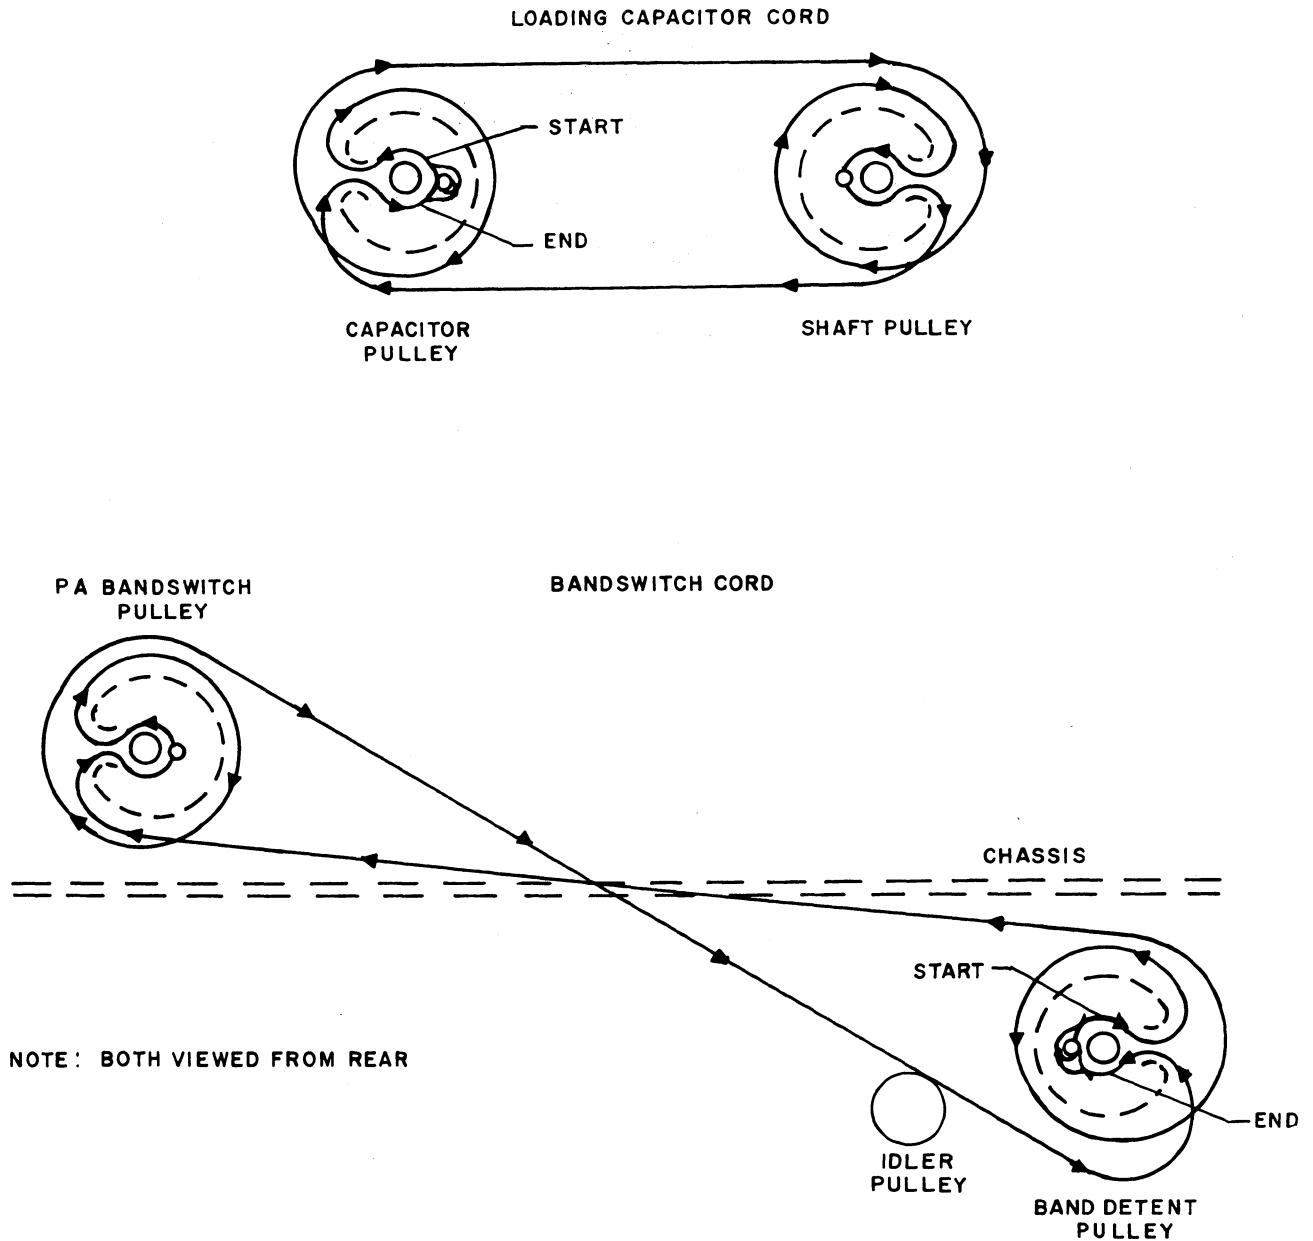

Figure 4-3. Dial Cord Stringing Diagram
4.5 DIAL CORD REPLACEMENT. (Refer to figure 4-3.)
d. String the cord according to the appropriate part of figure 4-3. **Make sure the cord turns do not overlap on the pulleys.** Pull the cord tight and tie to the tab. Make sure a short piece of spaghetti is slipped over the plastic covered cord so that it acts as extra insulation under the tab. This prevents r-f currents from melting the plastic and shorting the wire core to ground. Mash the tab down to clamp the cord securely. Tighten the idler to bring the cord to tension.
d. String the cord according to the appropriate part of figure 4-3. **Make sure the cord turns do not overlap on the pulleys.** Pull the cord tight and tie to the tab. Make sure a short piece of spaghetti is slipped over the plastic covered cord so that it acts as extra insulation under the tab. This prevents r-f currents from melting the plastic and shorting the wire core to ground. Mash the tab down to clamp the cord securely.